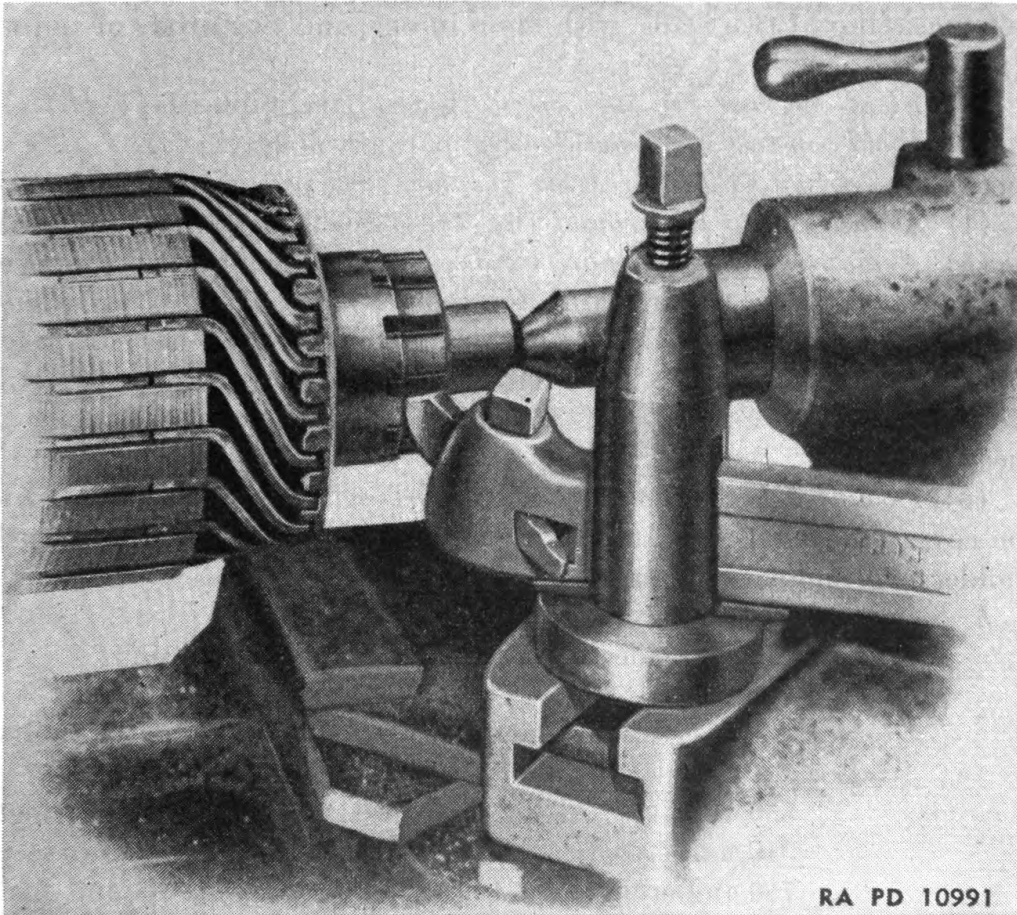

FIGURE 78.—Turning commutator.
b. Commutator.—(1) If commutator is dirty or slightly burred, clean with No. 00 sandpaper while armature is revolving and blow dust from commutator and brushes. Never use emery cloth.
(2) If commutator is rough, has flat bars, or high mica, remove starter and turn armature in lathe (fig. 78).